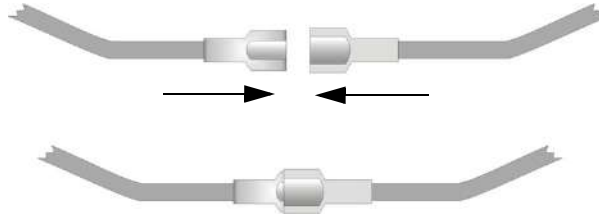

Figure 4.6 Splicing Control panel Battery Cable to RBB or AB-55 Battery Cable Extenders
2. Connect the main control panel battery cables to the battery cable extenders as shown in Figure 4.6.